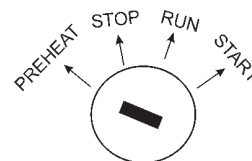

Figure 48. Engine Ignition Switch (Pre-Heat)
5. When starting the generator in **COLD** weather conditions, turn the **ignition key** to the **"PREHEAT"** position (Figure 48). In warm weather conditions, pre-heating is not necessary. Skip to step 7.